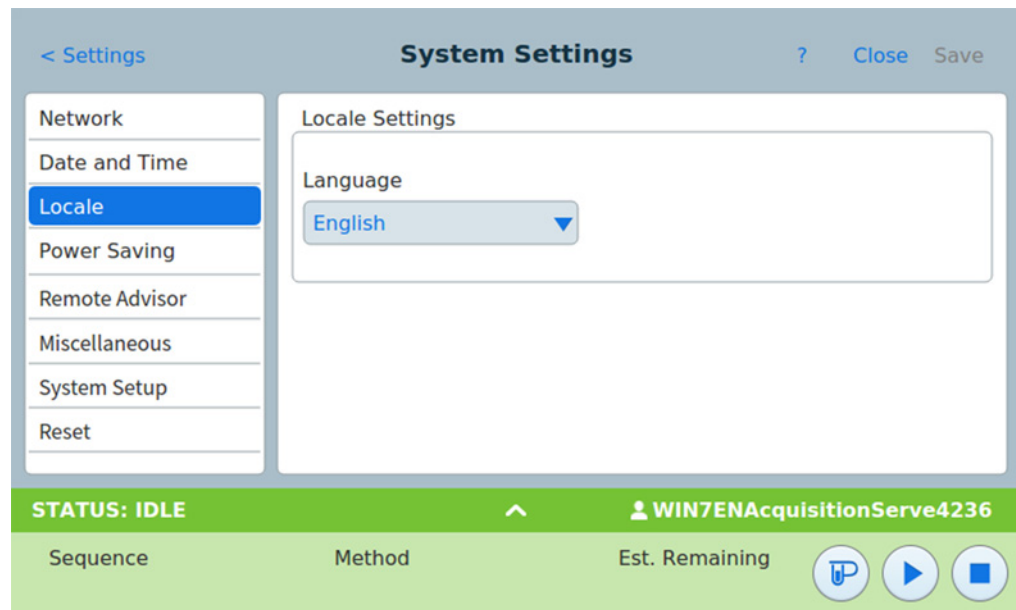

Figure 42 Locale Settings page
- 1 From the System Settings page, press the **Locale** page selection button. The Locale Settings page appears. See Figure 42.